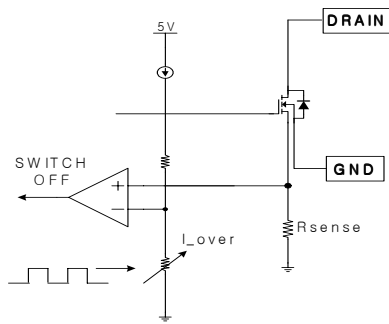

Figure 8. Soft Start Function
**5. Soft Start :** The FPS has an internal soft start circuit that increases the feedback voltage together with the Sense FET current slowly after it starts up. The typical soft start time is 15msec, as shown in figure 8, where progressive increments of Sense FET current are allowed during the start-up phase. The pulse width to the power switching device is progressively increased to establish the correct working conditions for transformers, inductors, and capacitors. The voltage on the output capacitors is progressively increased with the intention of smoothly establishing the required output voltage. It also helps to prevent transformer saturation and reduce the stress on the secondary diode.